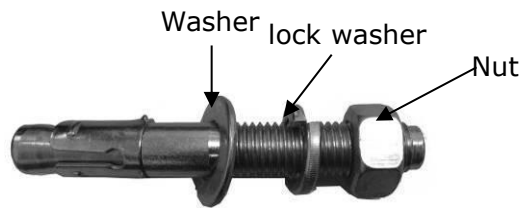

Fig. 42
2. Prepare the anchor bolts (See Fig. 42).